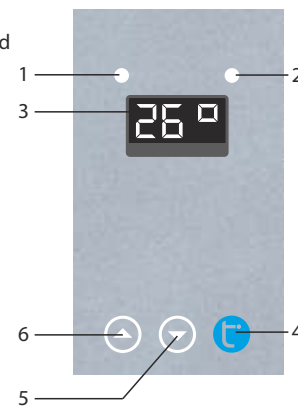

Рис. 15
1. During the first water heater start-up or after long-term non-use, fill the device with water by opening the cut-off tap at cold water supply line, and make sure that there is a steady cold water flow at water outlet at the consumption point, after that switch on the device power supply, indicating lamp 1 at the control panel (see Fig.15) starts blinking.
2. To switch on the device, press «» button at the control panel, power supply indicator 1 (see Fig.15) will be constantly lit up.
4. Water flow is controlled by the tap at water inlet to or outlet from water heater. When there is water flow, and water pressure is not less than 0.1 MPa, heating is switched on automatically, and indicating lamp 2 located at the control panel lights up (see Fig.15).
To switch off the water heater, simply close water flow at the inlet to or outlet from the device; electronic flow sensor automatically opens the circuit of power supply to heating element, and indicating lamp 2 located at the control panel goes down (see Fig.15), and power supply indicator 1 starts blinking. For the subsequent switching on of heating it is enough to reopen the water supplying or water draining tap.